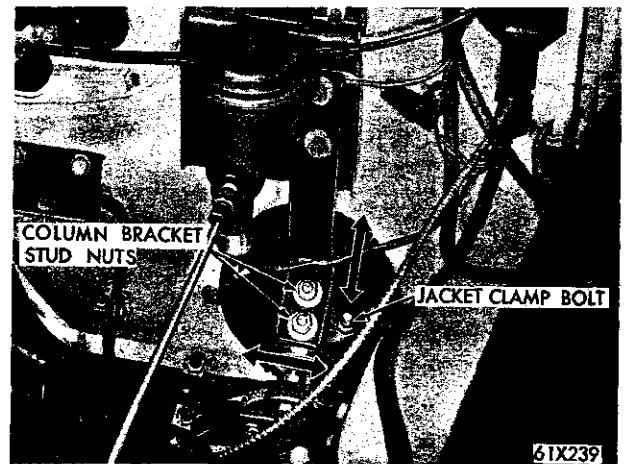

Fig. 15—Steering Gear Alignment
3. STEERING GEAR ALIGNMENT (Fig. 15)
NOTE: A rubber lip type seal is positioned between the upper hub of the flexible coupling and the jacket tube. The outer groove of the seal must be firmly installed on the jacket tube and the two nylon rings (Fig. 15) and the lip of the seal must be well lubricated with a wheel bearing grease.